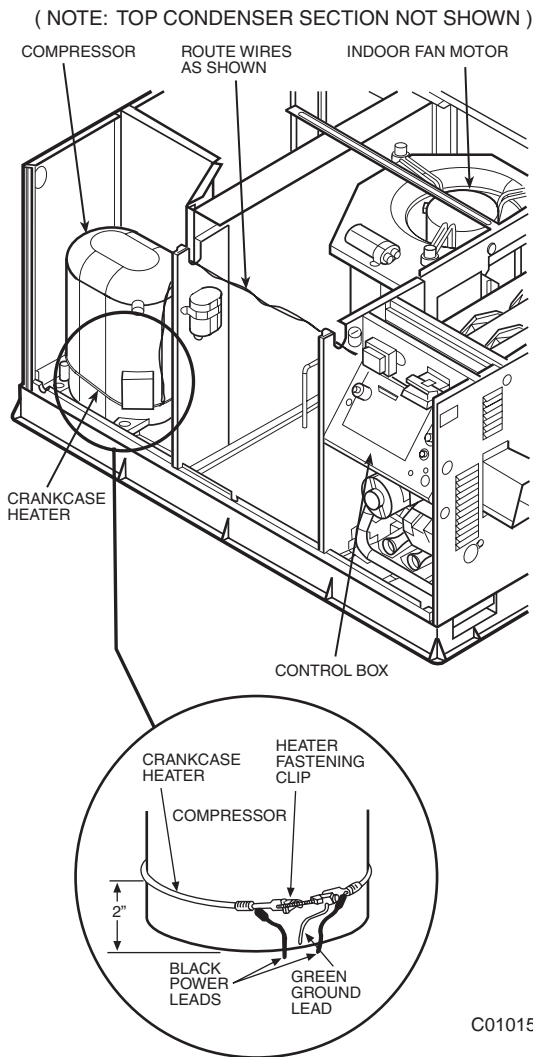

Fig. 1 — Typical Crankcase Heater Installation
3. Remove access panel for compressor and control box (See Fig. 1).
4. Spread crankcase heater arms and wrap heater around compressor base approximately 2-in. above compressor mounting plate (See Fig. 1).
5. Fasten heater firmly in place with fastening clip provided with the crankcase heater (See Fig. 1).
- Route crankcase heater leads into unit control box, following the path of the compressor leads (See Fig. 1).